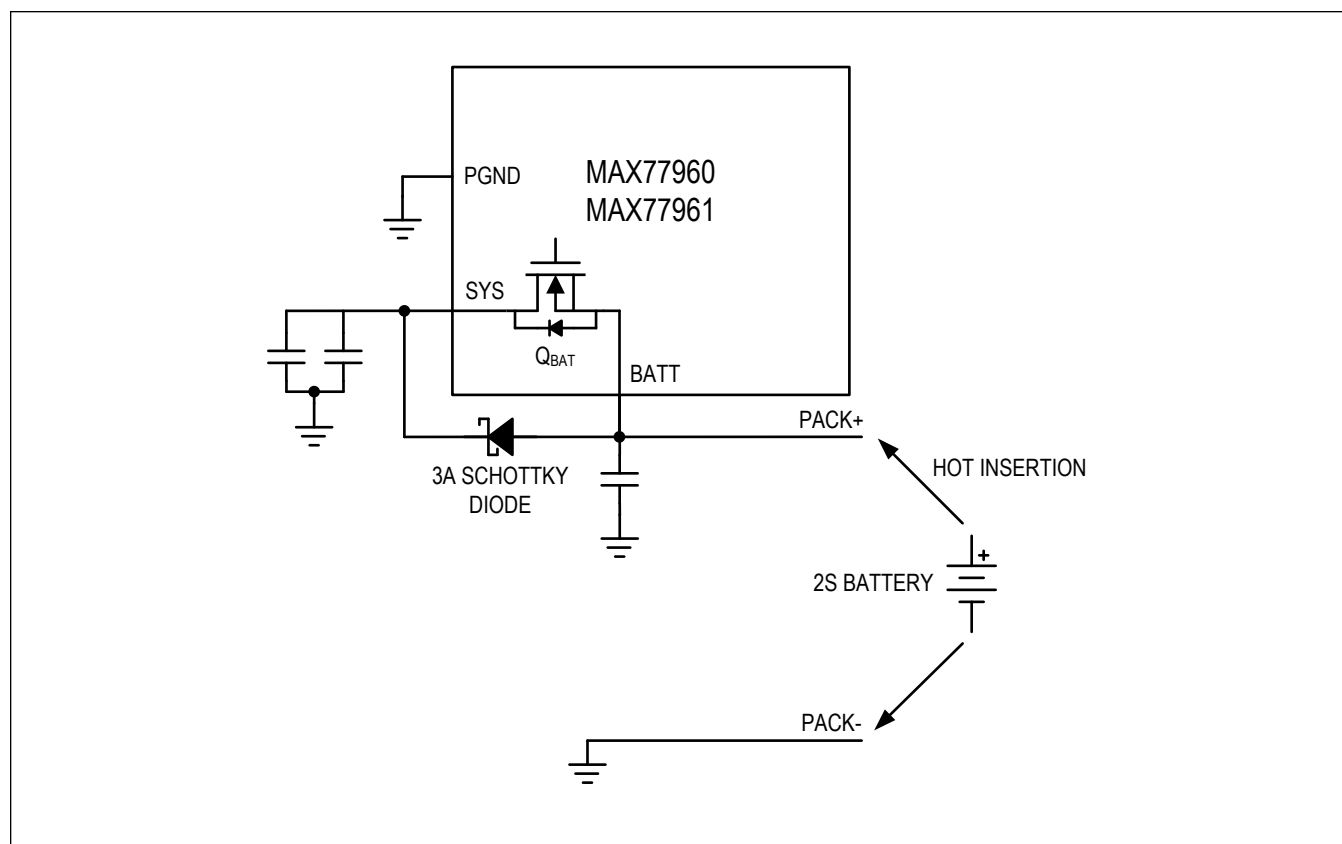

Figure 14. Battery Insertion Protection with 2S Battery
- For system designs with a 2S battery, include an external 3A Schottky diode from BATT to SYS. The Schottky diode has low forward voltage drop when conducting high current in the forward direction. It diverts the inrush current from BATT to SYS at battery insertion. The inrush current flowing through the QBAT FET is greatly reduced and therefore the IC is protected. See Figure 14.